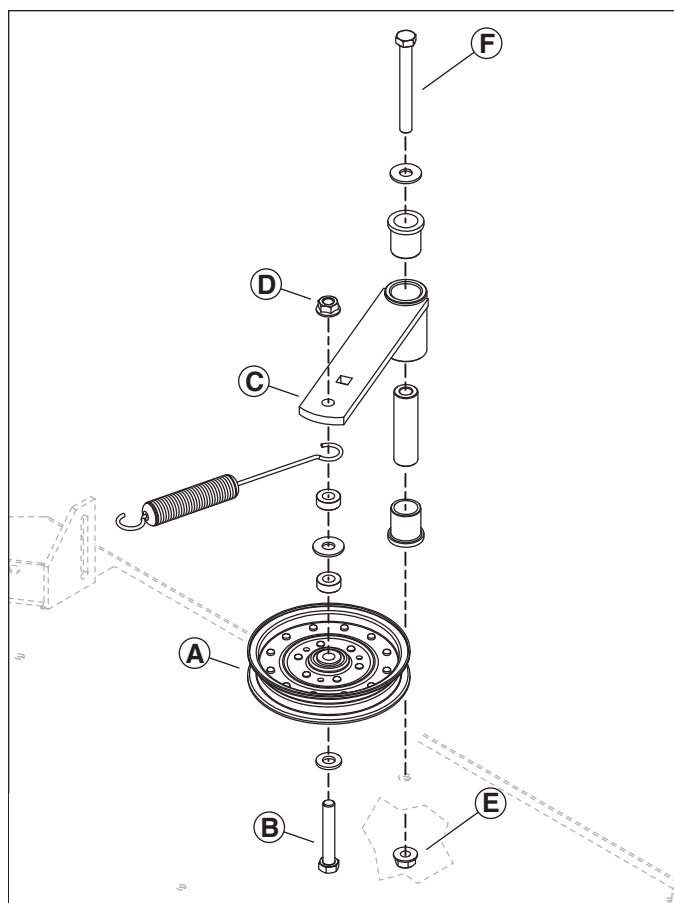

Figure 3. New Idler Arm Assembly
1. Install the new idler pulley (**A, Figure 3**) onto the new idler arm assembly (**C**) with the existing 1/2-13 X 3" bolt (**B**) with 1/2" washer going up through the spacer, a second washer, a second spacer, the idler arm, another washer and secure it with a new 1/2" nylock nut (**D**). See *Figure 3*
2. Install the idler arm assembly to the mower deck with the existing 1/2-13 X 4-1/2" bolt (**F**) and washer going down through the idler arm with spacer and secure it with a new 1/2" nylock nut (**E**). See *Figure 3*